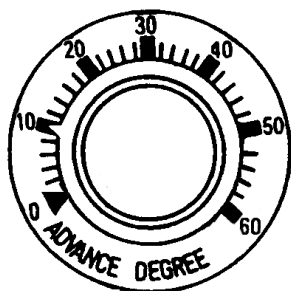

Figure 4
- 4.2.1 Set the knob to the '0' position as in figure 4.